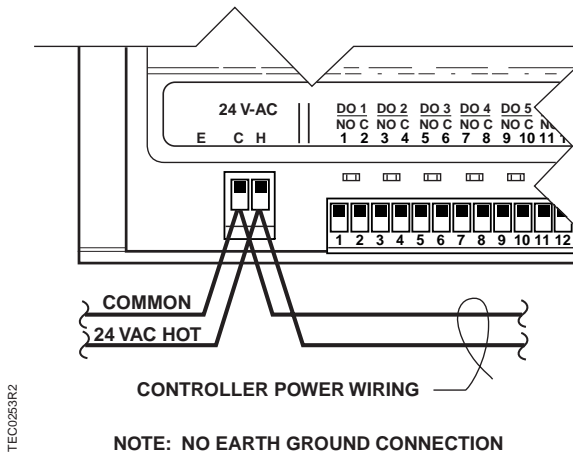

Figure 3. Power Trunk Wiring.
8. Connect the power trunk (Figure 3). DO NOT apply power to the controller.